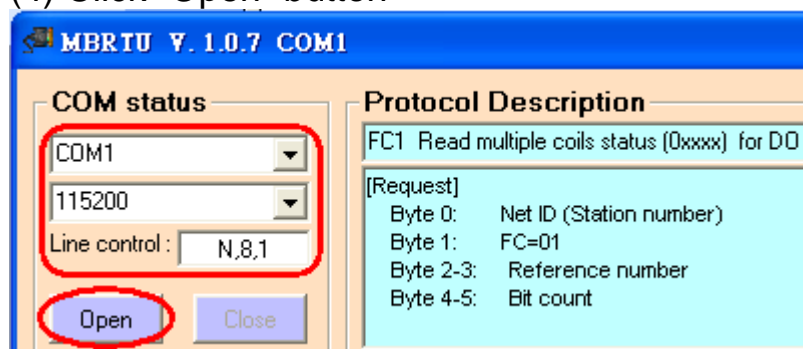

Figure 22: MB/RTU Tool
Step 5: Run the MB/RTU tool (like Figure 22) on PC.
- (1) Set the PC COM port number
- (2) Set the baud rate to 115200
- (3) Set the Line control to “N,8,1”
- (4) Click “Open” button